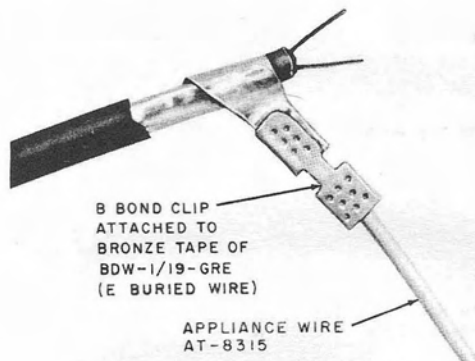

Fig. 16—Bonded Shield of BDW-1/19-GRE (E Buried Wire)
4.19 Where the buried wire is over 700 feet in length, the metallic shield of the BDW-1/19-GRE (E buried wire) must be bonded to the aerial cable terminal. A B bond clip and B appliance wire may be installed on the metallic shield in a solderless connector as shown in Fig. 16.